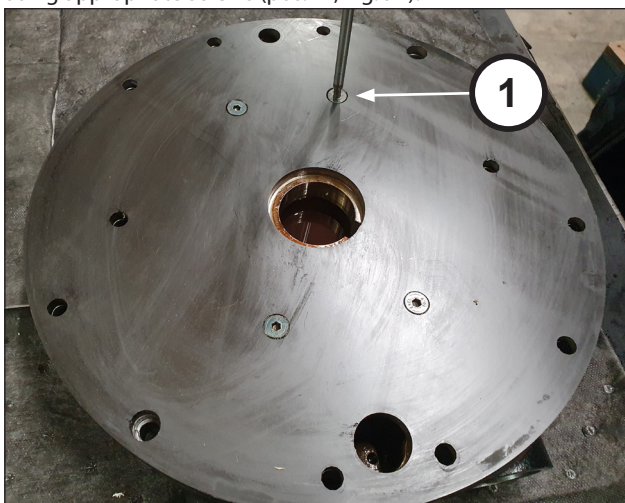

Fig. 94
Position the lube pump plate on the lube pump body and fix it using appropriate screws (pos. ①, Fig. 94).